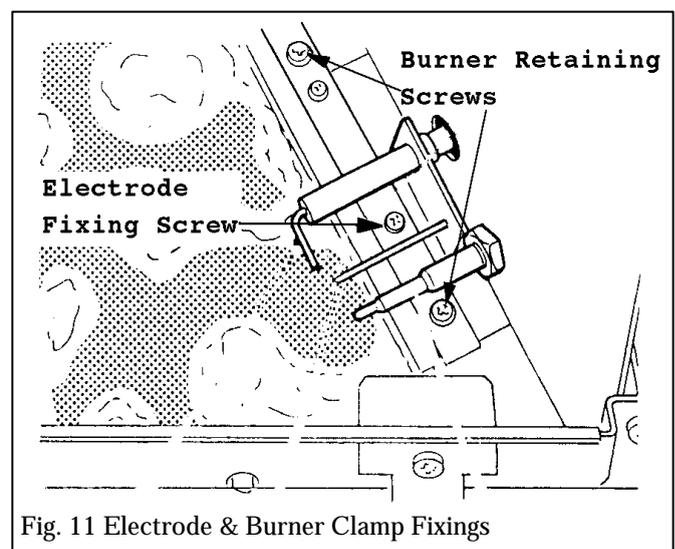

Fig. 11 Electrode & Burner Clamp Fixings
15.5.5 Remove the screw holding the electrode bracket to the right hand side of the main burner (see Fig.11). Withdraw the electrode.
15.11.5 Remove the screw holding the electrode bracket to the right hand side of the main burner (see Fig.11). Withdraw the electrode.
15.11.9 Remove the four large screws at the burner sides (two each side - see Fig.11).